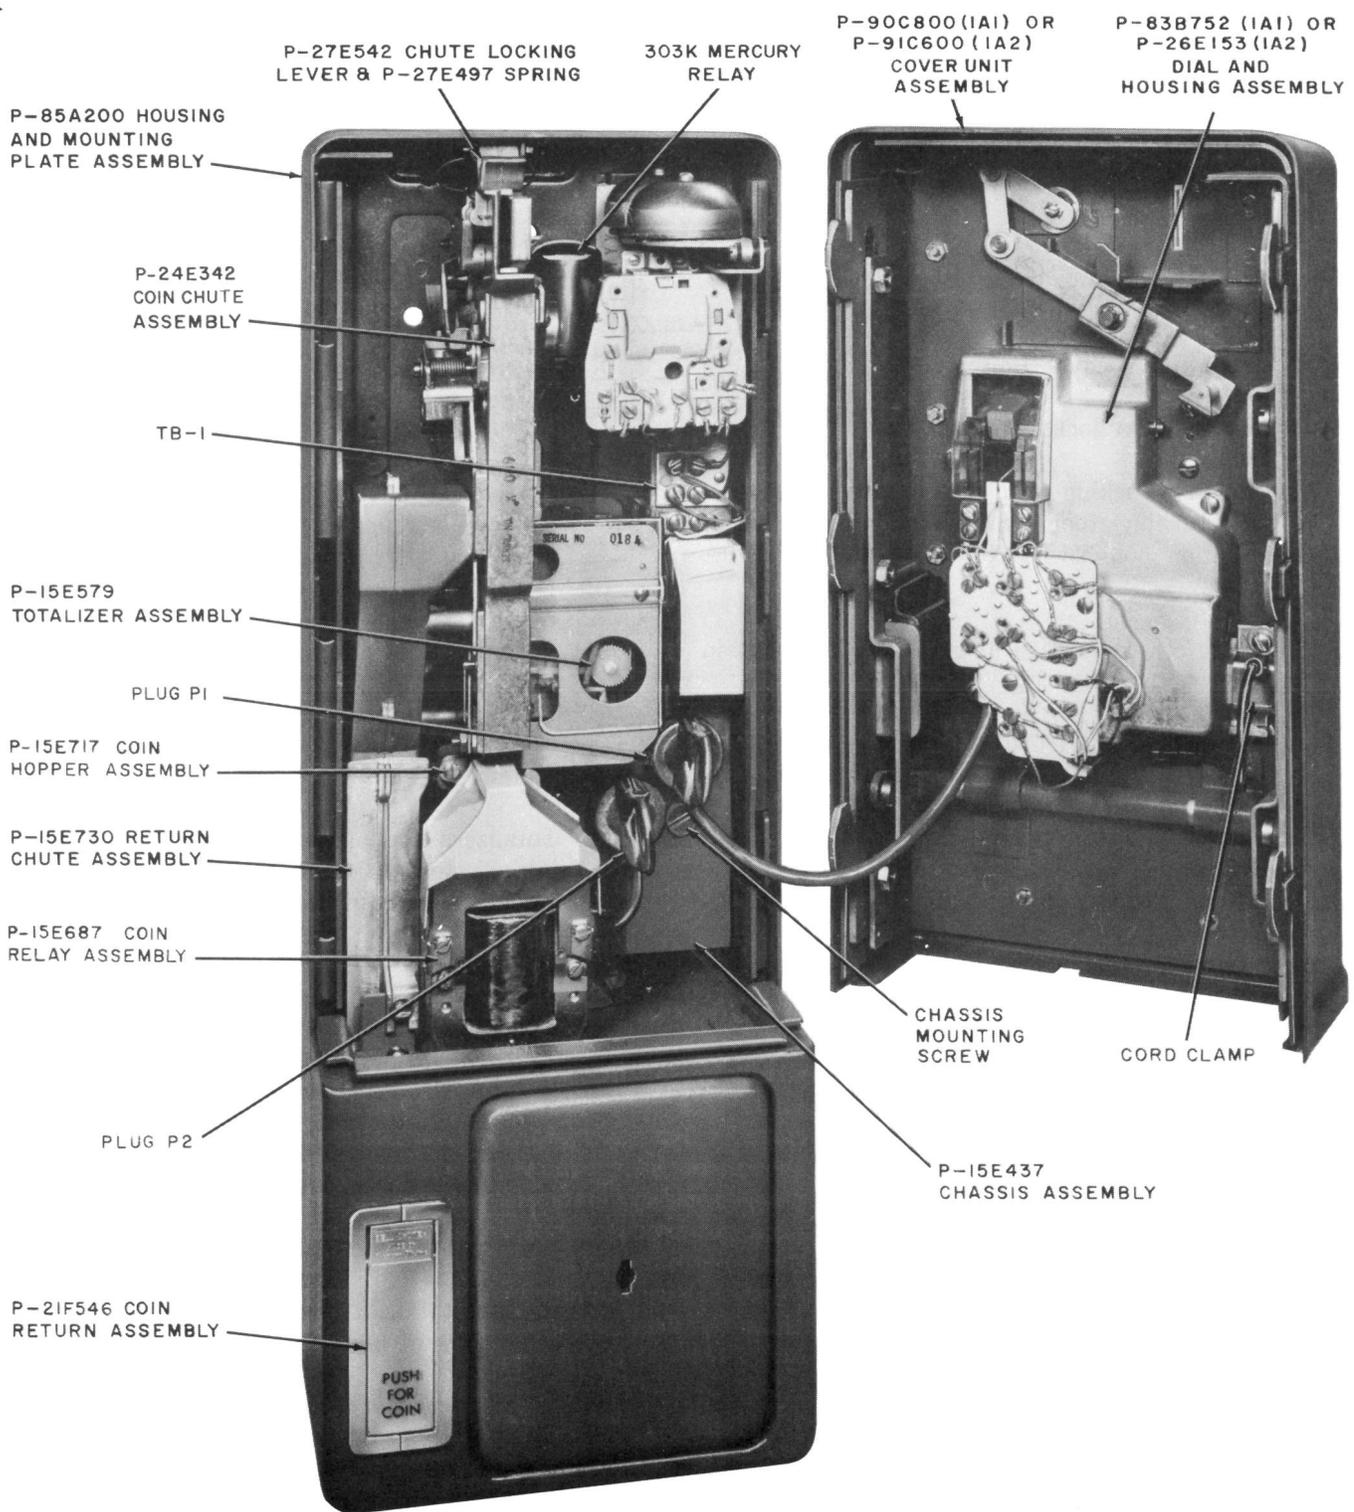
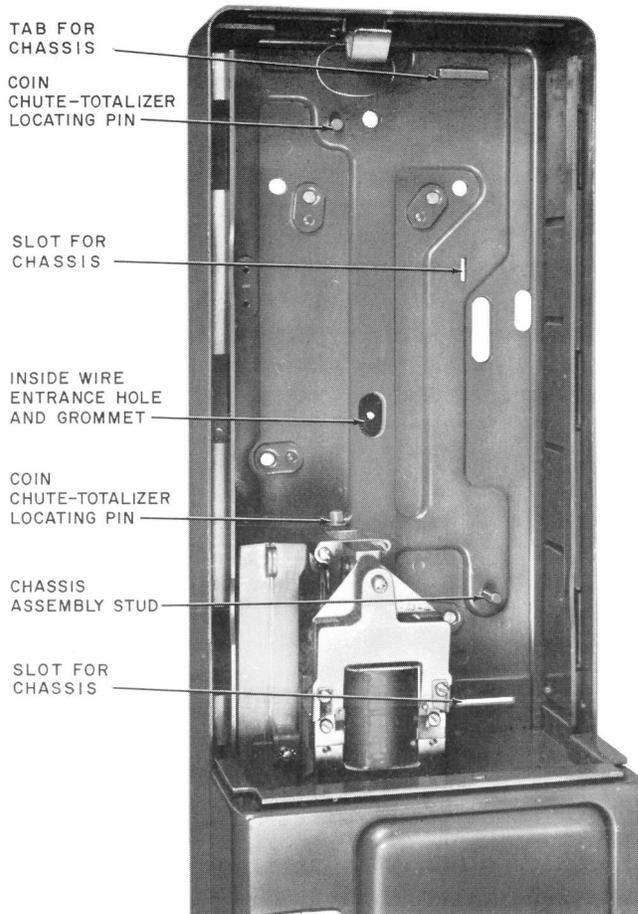

Fig. 7—Assembly of Parts (Typical)
Fig. 8—P-85A200 Housing and Mounting Plate Assembly
- (1) Unlock 29A lock.
- (2) Release locking mechanism with 719A tool by turning tool 1/8-turn counterclockwise. See Section 506-326-100 for illustration of 719A tool.
- (3) Slide cover forward about 3 inches to obtain access to plug P1.
- (4) Disconnect plug P1 (Fig. 7) by pulling straight out as cover is carefully lifted off.
- (1) Disconnect plug P2 (Fig. 7).
- (2) Release chute locking lever and spring.
- (3) Lift spring out of groove in coin chute.
- (4) Tilt top of coin chute forward and lift out.
- (1) Place assembly on pins located on rear of hopper assembly and back of housing (Fig. 8).
- (3) Loosen chassis mounting captive screw (Fig. 7).
- (4) Pull chassis assembly out at bottom and slide down to remove.
- (1) Slide chassis under tab (Fig. 8).
- (2) Seat chassis tabs in slots.
- (3) Tighten chassis mounting captive screw (Fig. 7).
- (4) Replace black and yellow leads on coin relay after threading through hole in hopper. Connect yellow lead to terminal G and black lead to terminal 3 of coin relay.